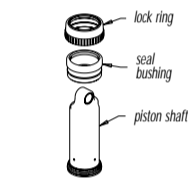

Figure 2
4. Remove the lock ring from the piston shaft by sliding it over the eyelet end. The seal bushing can also be removed in the same manner (Figure 2).